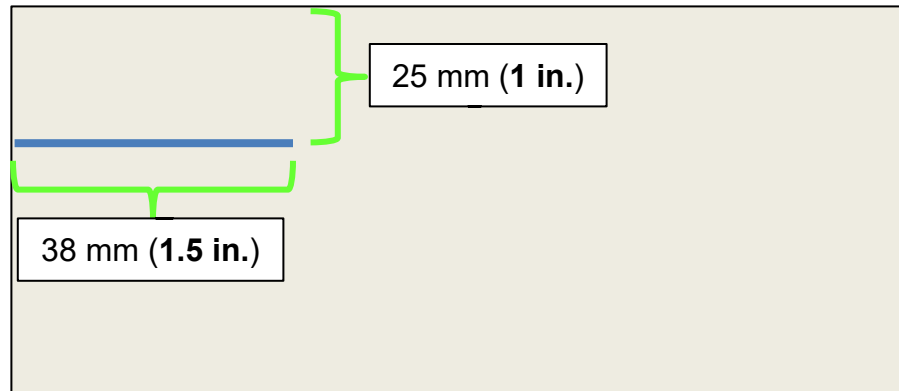

Figure 25
31. On the foil side of one (1) of the three (3) Butyl Patches, measure and mark a line, as shown in Figure 25, and then using scissors cut along the line.